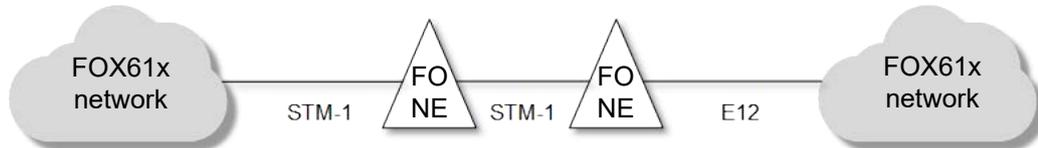

Figure 95: Defining the edges by two NEs of type FO
- The NE of type FO is used to represent each edge third party equipment of the SDH network; in this example two such NEs as shown in Figure 95: